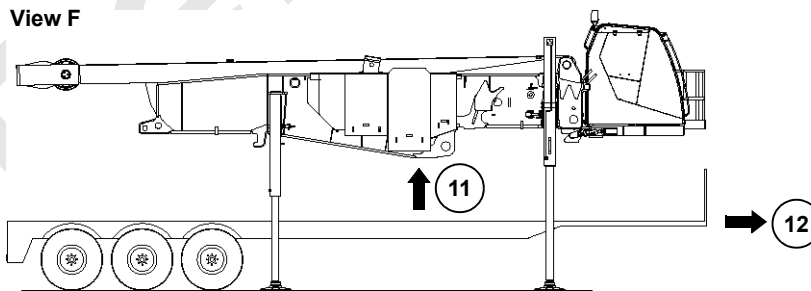

FIGURE 4-5
NOTE: The engine may not start—faults will occur—until the terminator plugs (1, View D and 16, View E, Figure 4-5) are connected to the cable (2) and node (17).
See Figure 4-5 for the following procedure unless otherwise specified. The circled numbers in Figure 4-5 correspond to the following steps:
FIGURE 4-5 continued